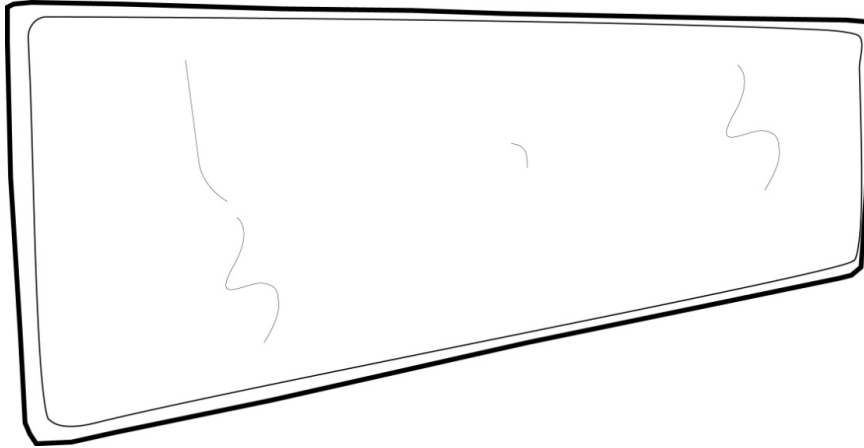

Figure 2. Self-Inflating Sleeping Mat.
**Self-Inflating Sleeping Mat (Figure 2).** An extension on the conventional, manually inflated mattress, this type is capable of self-inflation due to the open-cell foam that fills the internal cavity.